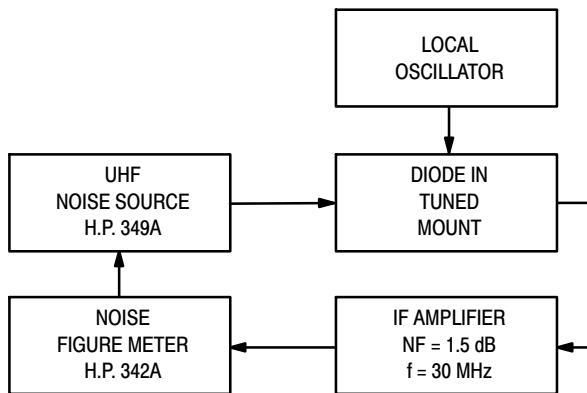

Figure 5. Noise Figure Test Circuit
- Note 2 – Noise figure measured with diode under test in tuned diode mount using UHF noise source and local oscillator (LO) frequency of 1.0 GHz. The LO power is adjusted for 1.0 mW. IF amplifier NF = 1.5 dB,  $f = 30$  MHz, see Figure 5.